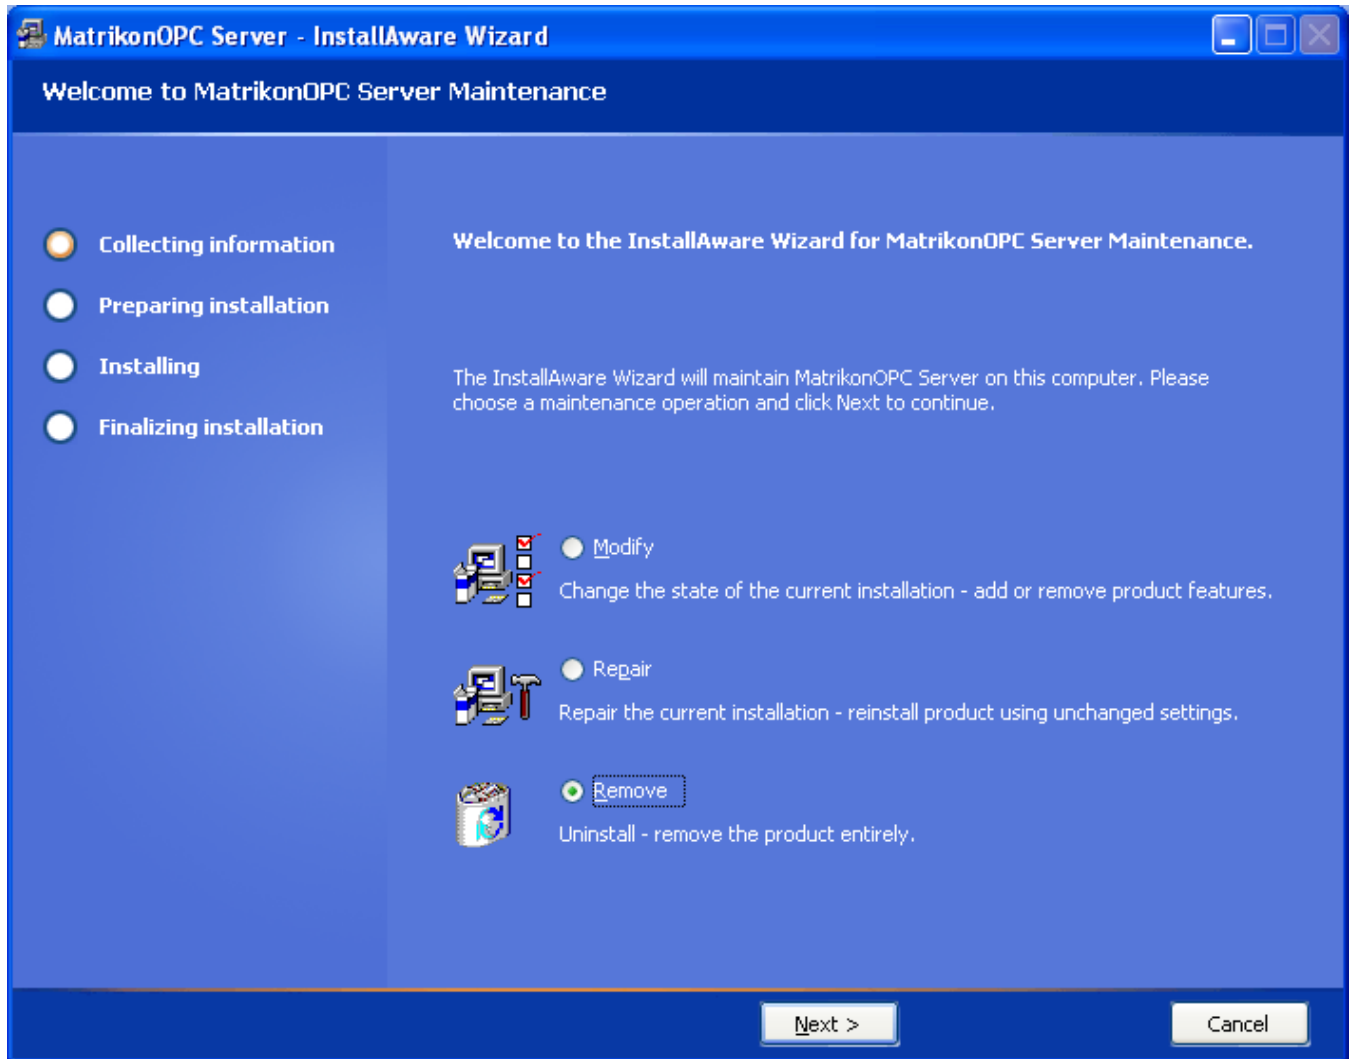

Figure 79 - Welcome to MatrikonOPC Server for Mitsubishi PLCs Maintenance Screen
6. The **MatrikonOPC Server for Mitsubishi PLCs – InstallAware Wizard** appears, and the **Welcome to MatrikonOPC Server for Mitsubishi PLCs Maintenance** screen (Figure 79) is displayed.